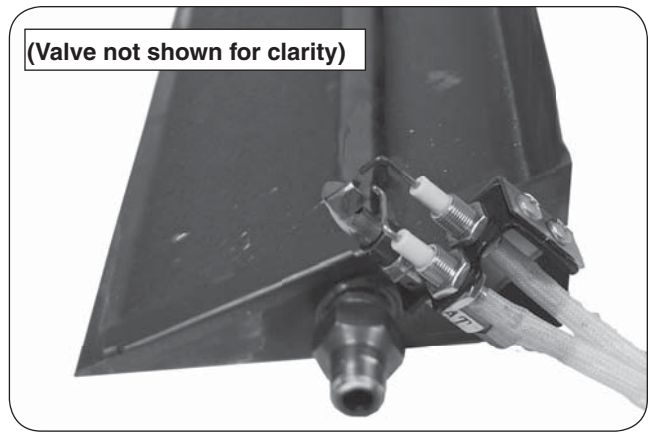

Fig. 6-1 Install pilot assembly
1. Using the two (2) remaining screws, mount the pilot assembly onto the bracket (Fig. 6-1) and tighten until snug. **Check to be certain the pilot hood and probes are situated above the edge of the pan. Adjust if necessary.**